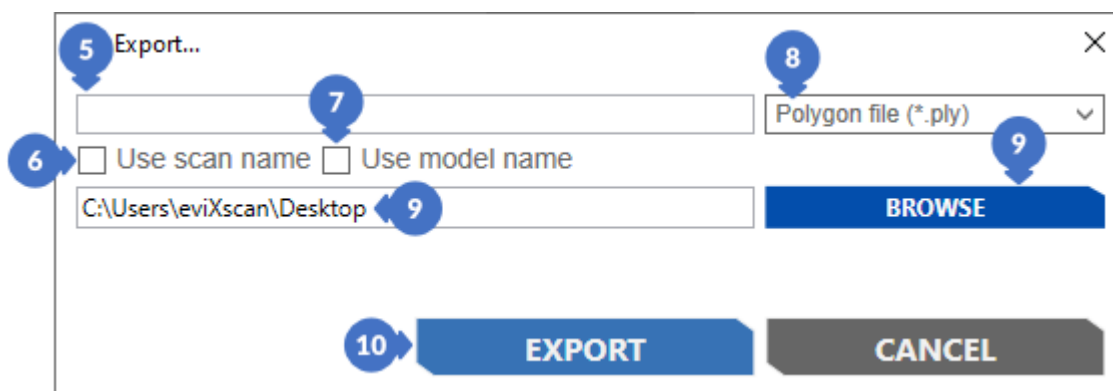

Figure 198. Export settings window
The *Export* window will open, in which you have three possibilities to enter the name for the files to be exported. The first option is to enter the name (5) (Figure 198) without selecting *Use scan name* (6) and *Use model name* (7) then the files will start from the given name taking into account the subsequent ordinal